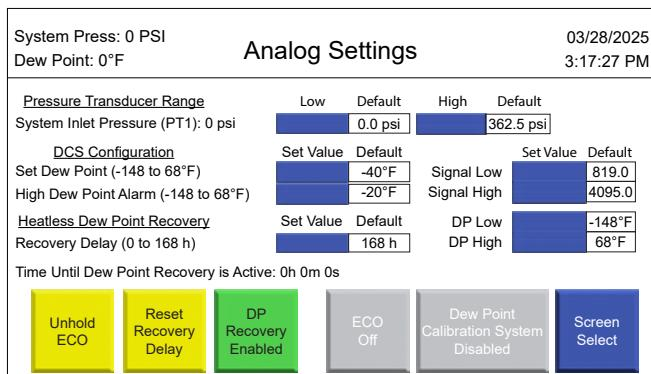

Figure 5.8 – Analog Settings
- The analog settings menu (refer to Figure 5.8) allows the user to change how the controller reads sensors. This is typically left at default settings unless a user has been instructed to make changes by Altec AIR tech support.